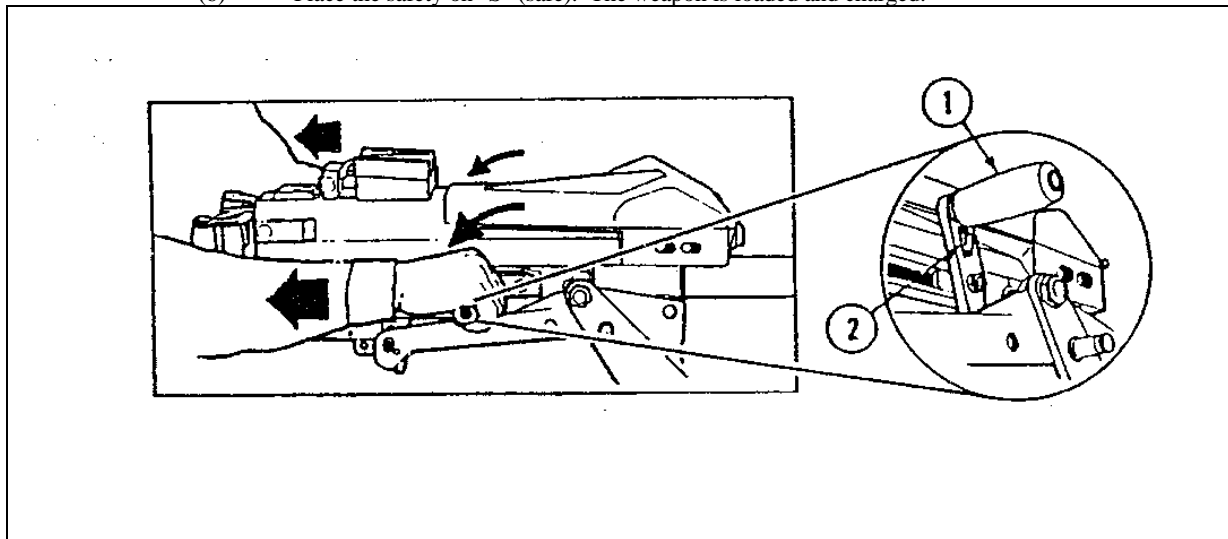

Figure 6. Charging
- (1) Grasp the charging handles (see Figures 6, 1) and press the charger handle locks (see Figures 6, 3)
- (2) Rotate the handles down and pull to the rear.
- (3) Press the locks and push the charging handles forward and up to the original position.
- (4) Place the safety on "F" (fire) and press the trigger. Do NOT ride the bolt forward.
- (5) Pull the charging handles to the rear, press the locks and push the handles forward once again.
- (6) Place the safety on "S" (safe). The weapon is loaded and charged.